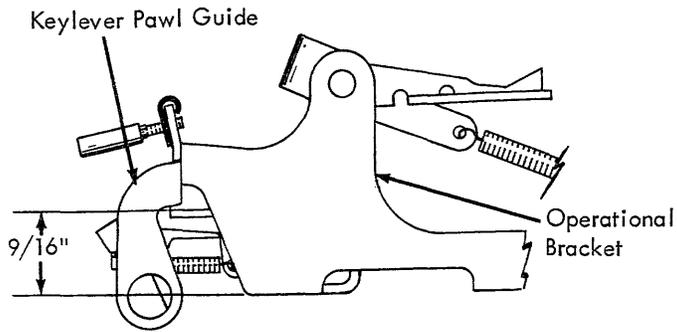

FIGURE 112. Interposer Height
- a. Adjust the keylever pawl guide so that the lower edge is  $9/16$ " from the bottom of the operational bracket (Fig. 112).